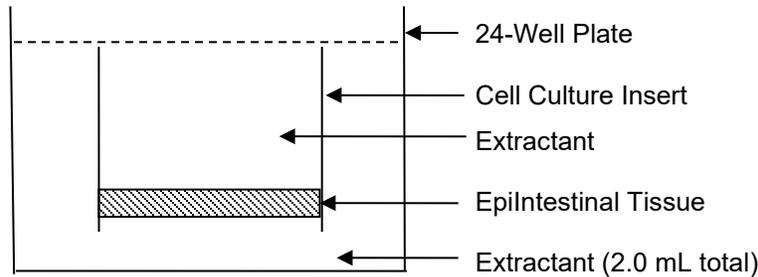

Figure 5: Extraction of MTT (In the dark, at room temperature for 2 hr w/ shaking or overnight w/o shaking)
b) **Add extractant:** Immerse the cell culture inserts in 2.0 mL of the extractant solution to completely immerse the Epilntestinal tissue. See **Figure 5**. Cover the extraction plate to reduce evaporation of extractant. *Note:* If the test article is colored and does not completely rinse off, pipet 1.0 mL of extractant into each well so that the MTT is extracted through the bottom of the tissue culture insert. After extraction is complete, remove the insert and add an additional 1.0 mL of extractant to bring the total volume to 2.0 mL.